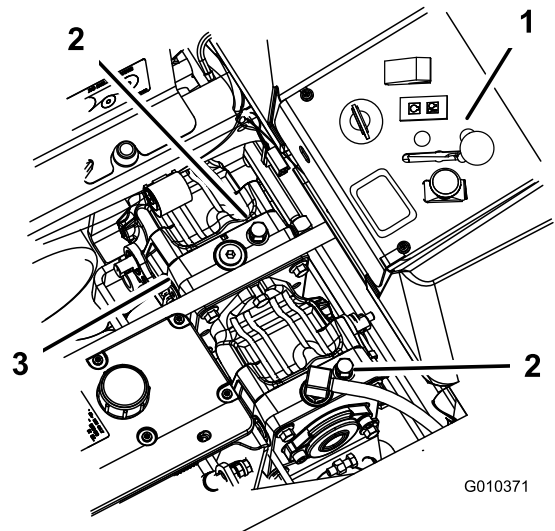

Figure 31
2. Rotate the bypass valves counterclockwise 1 turn. This allows hydraulic fluid to bypass the pump, enabling the wheels to turn (Figure 31).
Rotate the bypass valves clockwise 1 turn to operate machine (Figure 31).